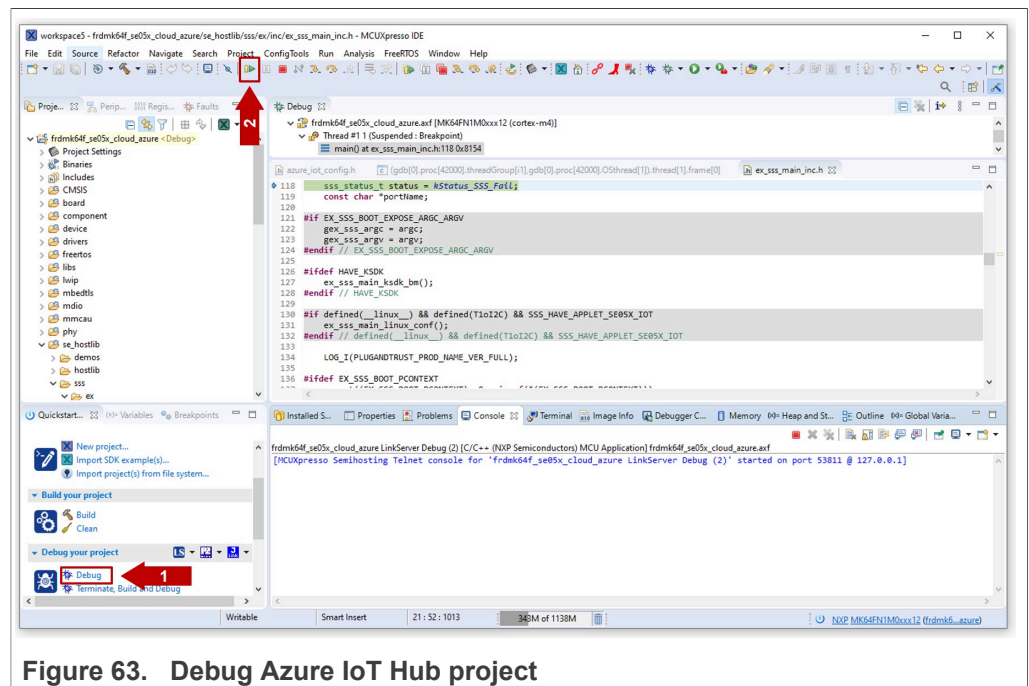

Figure 63. Debug Azure IoT Hub project
- Go to the MCUXpresso Quickstart Panel and click **Debug** button, wait a few seconds until the project executes and click on **Resume** to allow the software to continue its execution as shown in Figure 63: